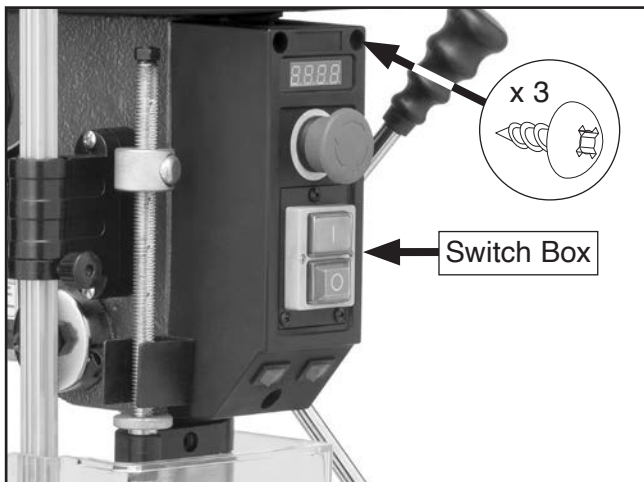

Figure 74. Location of switch box and securing screws.
- Remove (3) tap screws shown in **Figure 74** to remove switch box from headstock.